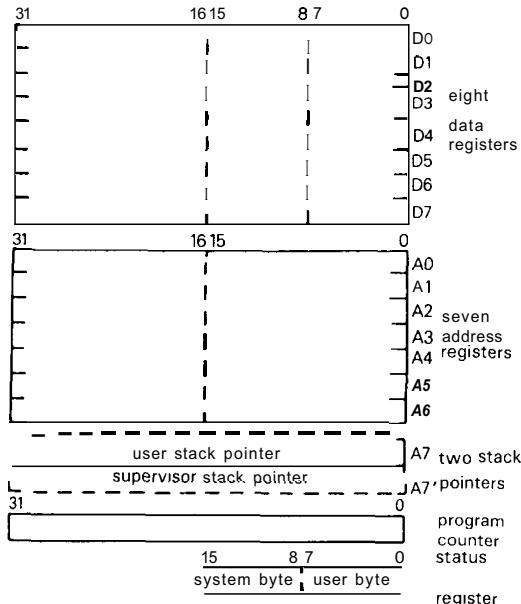

Figure 11.1. 68000/8 registers.
Figure 11.1 shows the internal registers of the 68000 (we will use "68000" to refer to features that are common to the 68000 and 68008). There are 8 *data registers* and 7 *address registers*, all of which are completely general-purpose; this contrasts with the 8086/8, in which AX (AL) must be used for I/O, DX for port addressing, etc. The *data registers* can hold bytes (8 bits), "words" (16 bits), or "longs" (32 bits), with the data type in any given operation specified in the assembly-language instruction itself (see below). You do your computation and byte-pushing in the data registers.